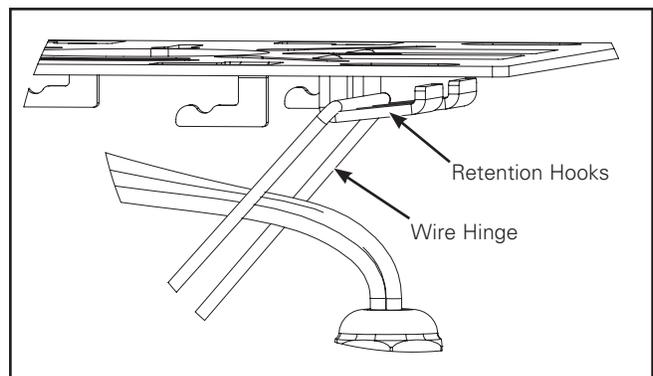

Figure 4.
5. Hang the luminaire to the quick mount plate by the wire hinge. (Figure 4.)